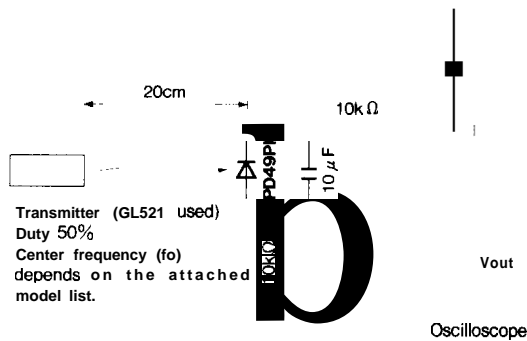
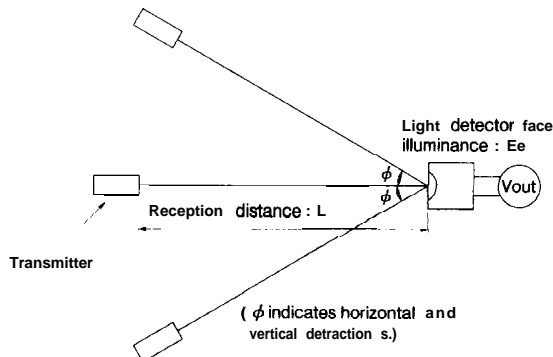

Fig. 1. Transmitter
Fig. 2. Standard optical system
*3 The burst wave as shown in the following figure shall be transmitted by the transmitter shown in Fig. 1.
Using the transmitter shown in Fig. 1, the output signal of the light detecting unit is good enough to meet the following items in the standard optical system in Fig. 2.
When $L = 0.2$ to 8m , $*E_e < 1\text{ lx}$ and $\phi = 0^\circ$ in Fig. 2, the output signal shall meet the electrical characteristics in the attached list.
When $L = 0.2$ to 6m , $*E_e < 10\text{ lx}$ and $\phi \leq 30^\circ$ in Fig. 2, the output signal shall meet the electrical characteristics in the attached list.
When $L = 0.2$ to 4m , $*E_e \leq 300\text{ lx}$ and $\phi = 0^\circ$ in Fig. 2, the output signal shall meet the electrical characteristics in the attached list.